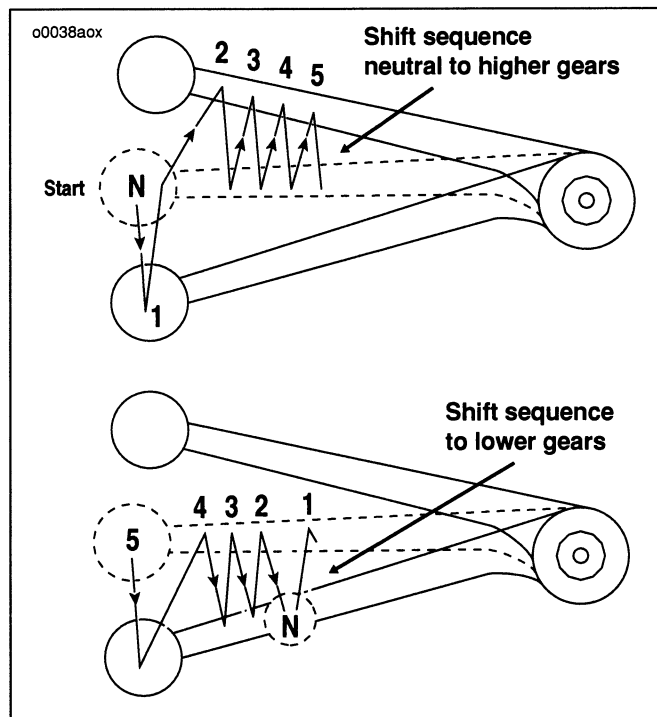

Figure 21. Foot Shifter Lever
See Figure 21. Always start motorcycle engine in neutral. Always start motorcycle from first gear when the engine is running.
3. See Figure 21. Push the foot shifter lever down firmly, but gently, to end of its travel and engage first gear.
See Figure 21. By lifting the gear shifter lever up, a higher gear is engaged; by pushing the gear shifter lever down, a lower gear is engaged. When stopping, operate gear shift until you reach neutral. Neutral is 1/2 stroke up from first gear.
5. See Figure 21. Gear shift pattern is first gear down; next four gears up.